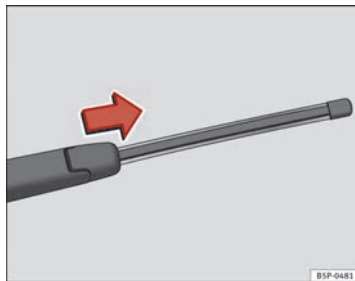

Fig. 187 Removing the rear window wiper blade
- Lift the wiper arm away from the glass ⇒ Fig. 187
- Slide the blade adapter in the direction of the arrow and remove the blade ⇒ Fig. 187.